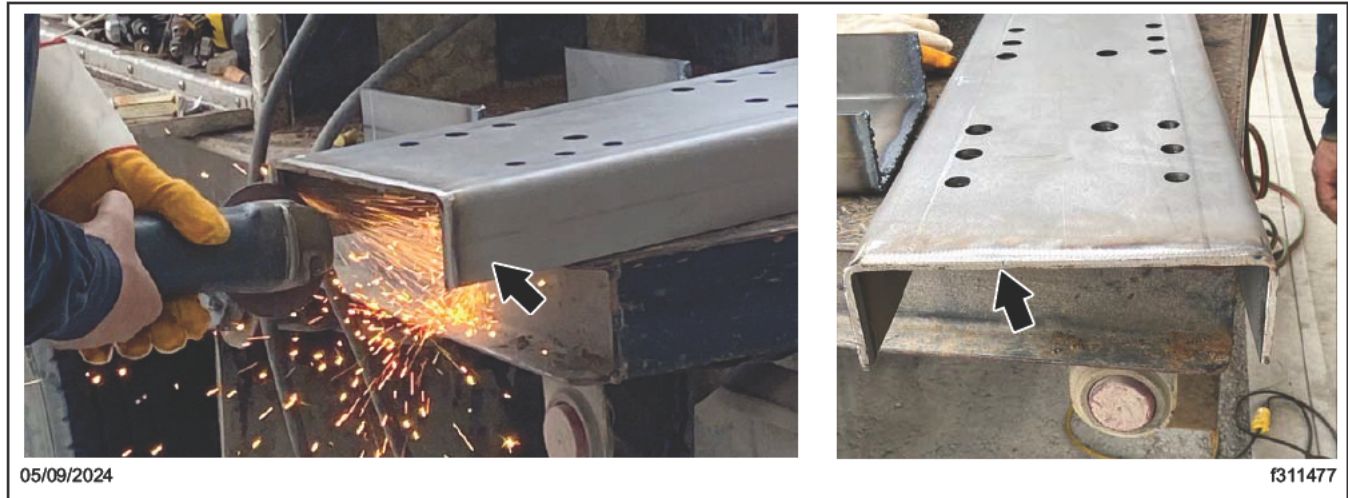
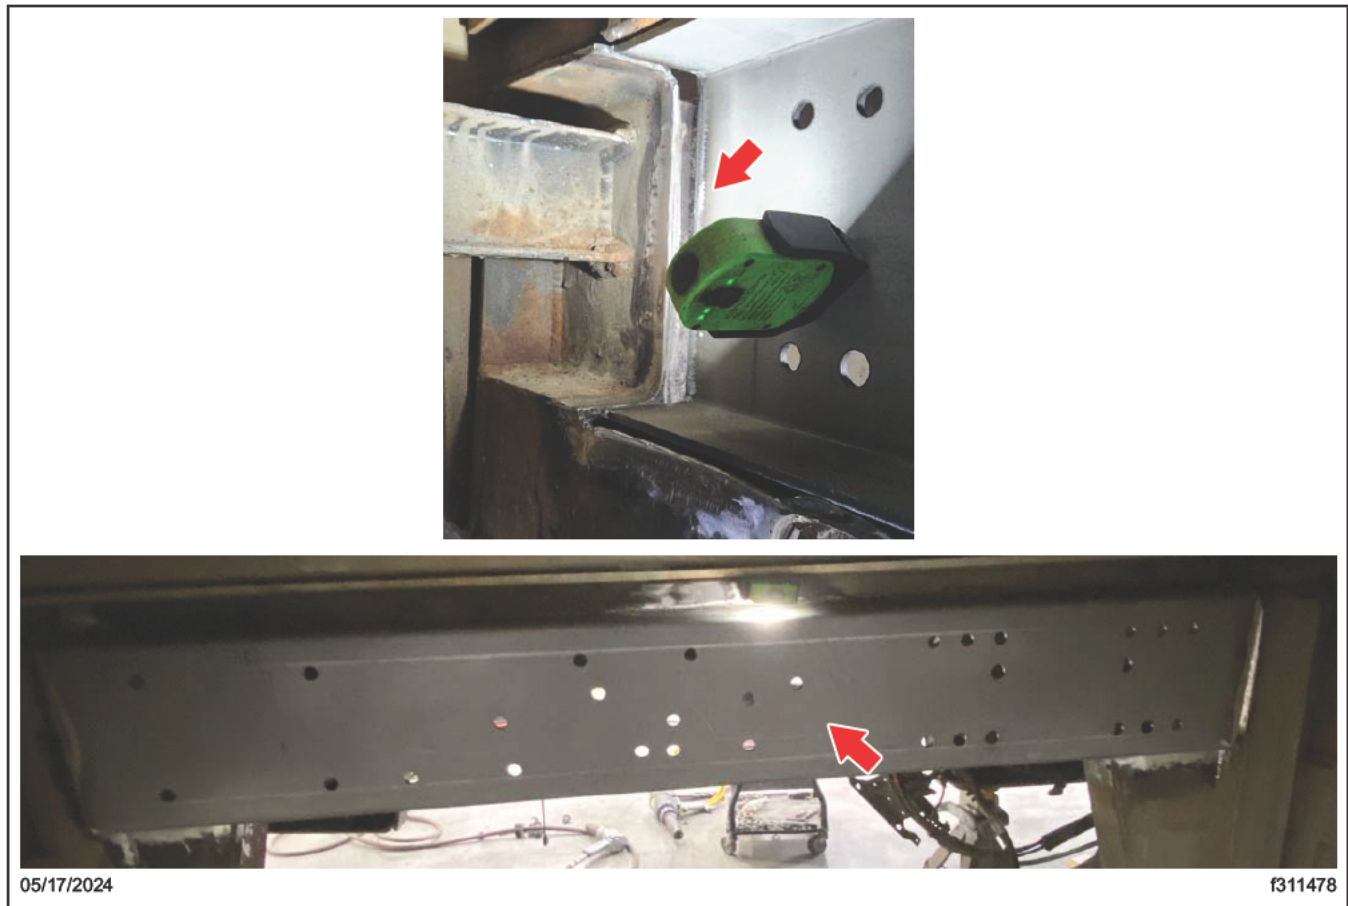

Fig. 35, Cleaning Up the Weld Remains
Fig. 36, Aligning the New Frame Rail
8. The welder/fabricator is responsible for measuring, cutting, preparing, and aligning the new rail for installation. See **Fig. 35** and **Fig. 36**.